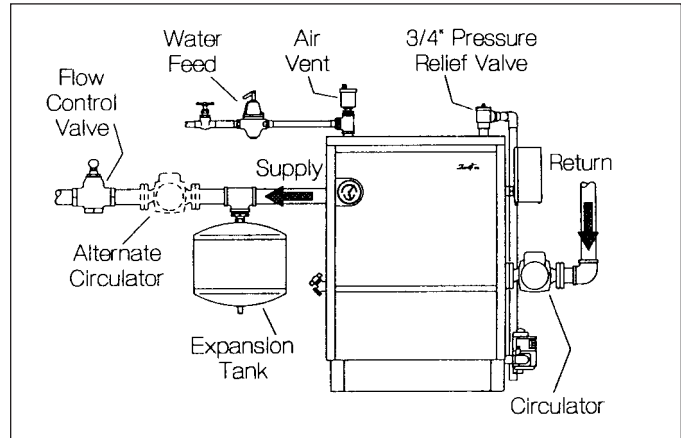

Figure 10. Piping arrangement
- Packaged water boilers are equipped with a water circulating pump, mounted to return the water into the boiler. For some installations, the pump should be on the supply main. See figure 10.
- DIAPHRAGM-TYPE COMPRESSION TANKS** are used to control system pressure in an **AIR ELIMINATING SYSTEM**: an automatic air vent is used to REMOVE air from the system water. See figure 8. If system pressure needs further control, add an additional tank or install a larger capacity tank. Locate the tank near the boiler, as illustrated. An automatic air vent should be installed in the top of the boiler or air purger. See figure 10.